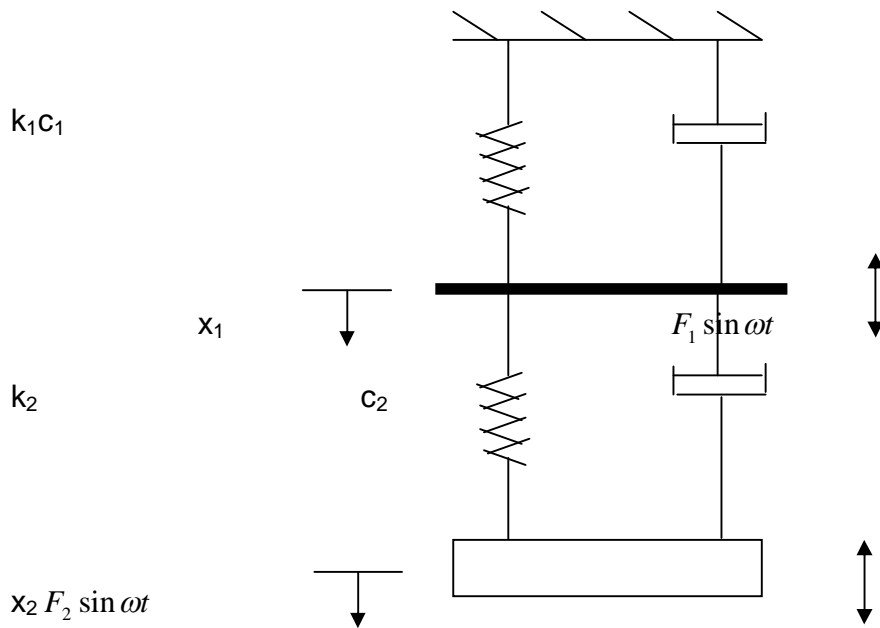

Figure 4
- b)** Find out the equation of motion of the damped forced system by Lagrange's method (Figure 4). The intermediate bar is rigid and massless. **(10)**